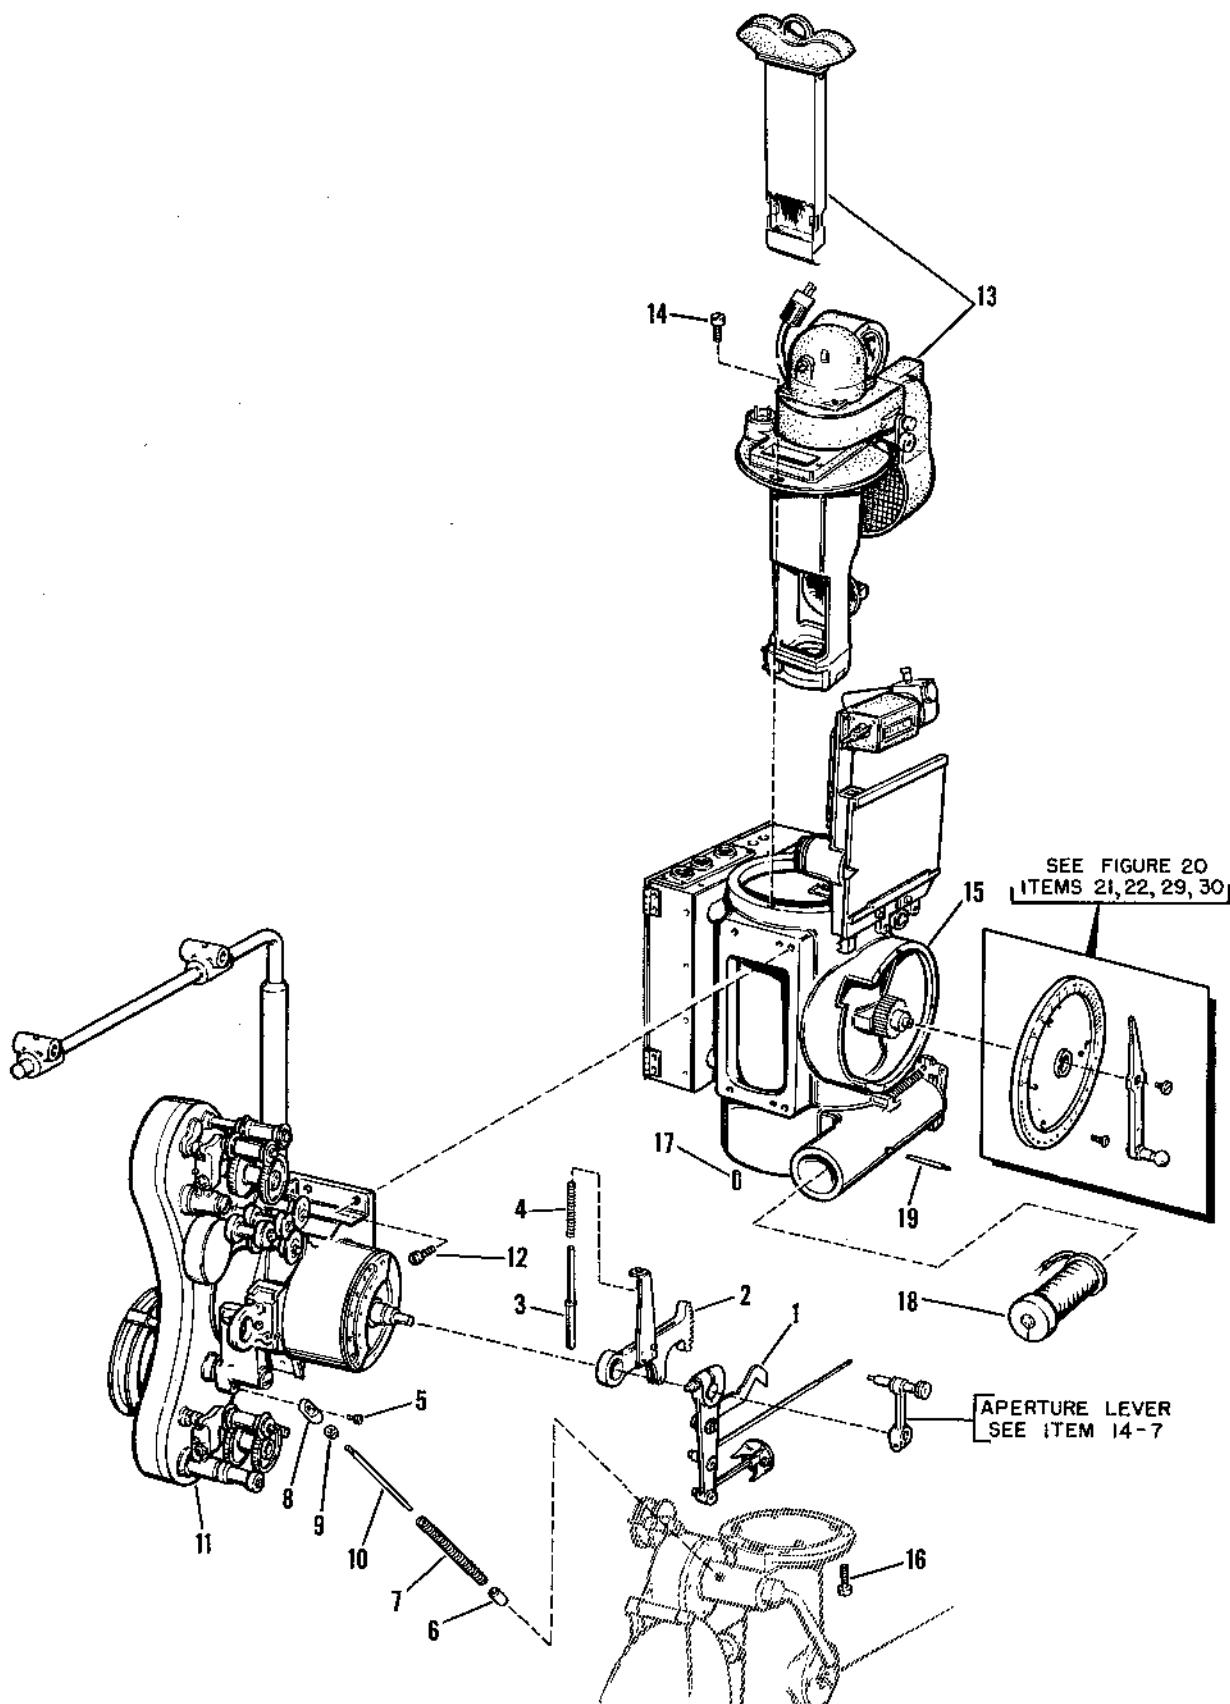

Figure 2. Printer Assembly, Complete - Sheet 2 of 3 Sheets
b. Adjust the film clearance at the aperture lever as instructed in paragraph 23. Then reassemble the lock lever parts (5 through 10, fig. 2) to the aperture lever and printer gear case.